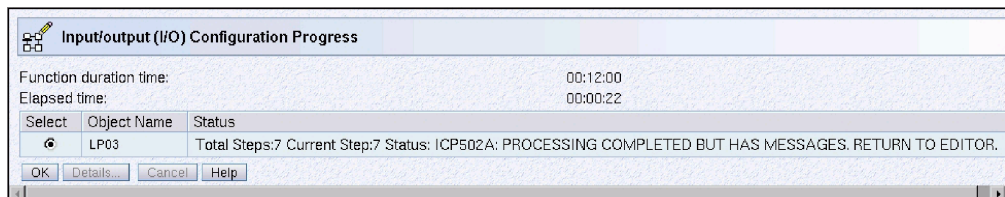

Figure 2-26. Input/output Configuration Progress - Build with Cautions or Warnings
- Warnings (see Figure 2-26 on page 2-20)
If the build was successful but had caution or warning messages, the window shown in Figure 2-26 is displayed. The resultant IOCDS has been written to the support element hard disk. Use the **Open Source File** action, described in “Open Source File” on page 2-11 to correct the caution and warning conditions, if necessary.